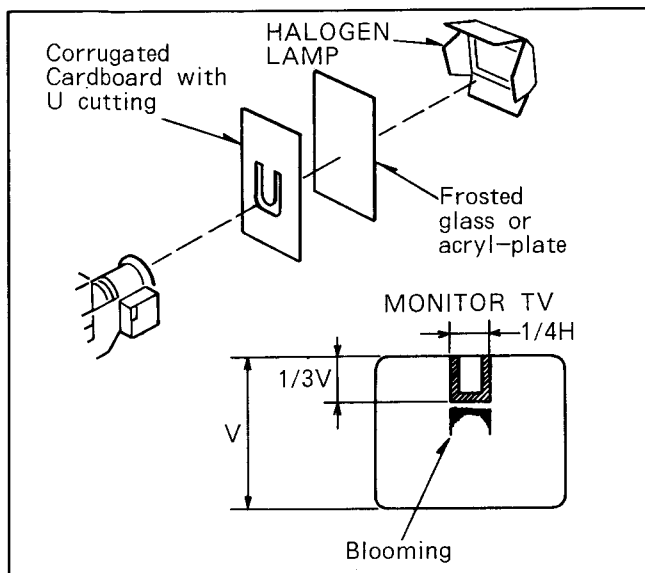

Fig. C10
- (1) Zoom all the way in (Fully tele position) and aim the camera at the Halogen Lamp as shown in Fig. C10.